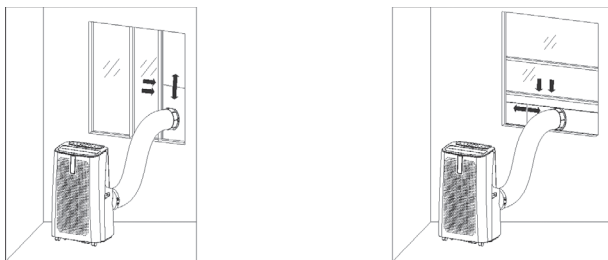

Fig. 6
- ▶ tighten the flat end of the connector (20) of the hot air exhaust duct to the elliptical hole (Fig. 6)